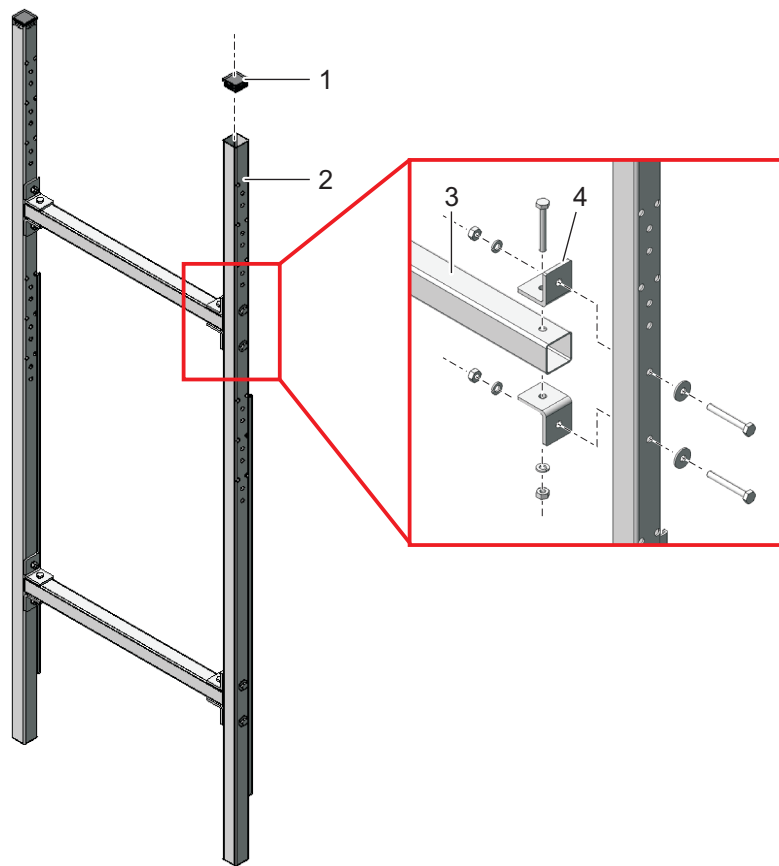

Fig. 3-7: Connecting the supporting pipes with the cross pipes
- 1 Press the plastic protective plugs (1) into the upper ends of both square supporting pipes (2).
- 2 Connect both supporting pipes with each other using the two square cross pipes (3). For each joint, use two angle brackets (4), three short hexagon head screws, two large plain washers, three spring washers and three locknuts as shown in Fig. 3-7, 30.